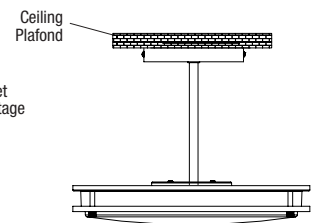

Fig. 8b
8. Complete the installation (Fig. 8b).
8. Terminer l'installation (Fig. 8b).